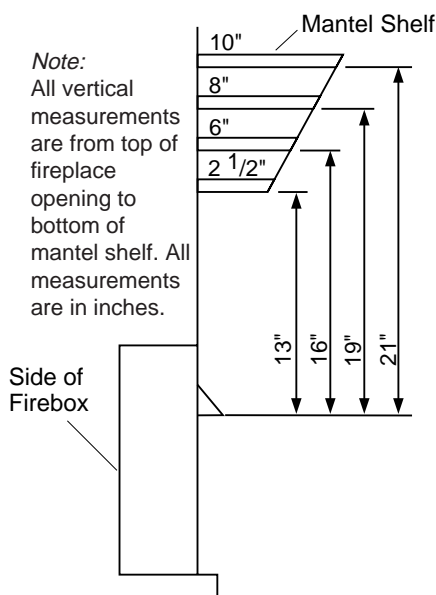

Figure 11 - Minimum Mantel Clearances for Built-In Installation
- For mantel clearances, see Figure 11 on page 10.
Built-in installation of this fireplace involves installing fireplace into a framed-in enclosure. This makes the front of fireplace flush with wall. An optional brass trim kit accessory is available (see *Accessories*, pages 28 and 29). Brass trim will extend past sides of fireplace approximately 1/2 inch. This will cover the rough edges of the wall opening. If installing a built-in mantel above the fireplace, but you must follow the clearances shown in Figure 11, page 10. Follow the instructions below to install the fireplace in this manner.